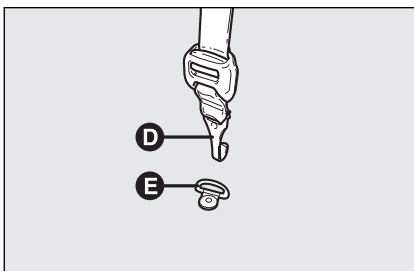

fig. 18
- for seats positioned facing the running direction, hook the upper belt **D-fig. 18** (in the upper seat pocket) to the ring **E** in the boot;